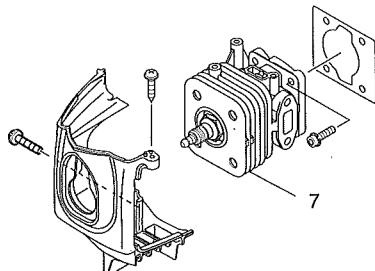

Fig. 15
**Cleaning the cylinder fins (Fig. 15)**